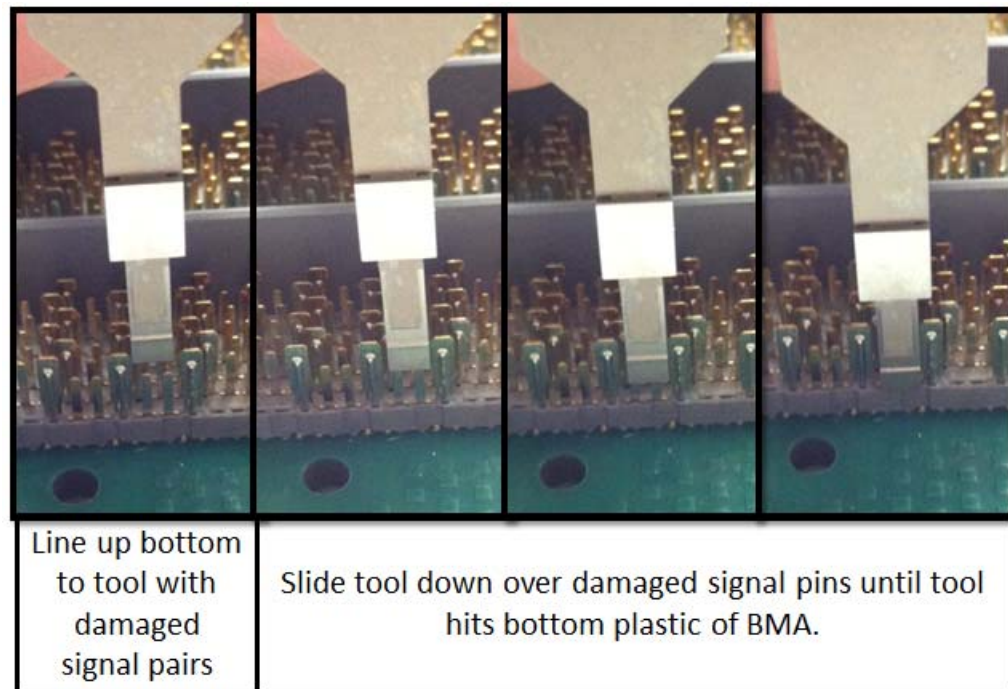

Figure 4. Proper loading steps for the dual signal removal tool
- 5.1.4 Line the bottom of the tool up with the dual damaged signal pins. Then slide the tool over the damaged signal pairs, until the bottom of the tool is touching the bottom of the BMA. See Figure 4 for proper procedure.